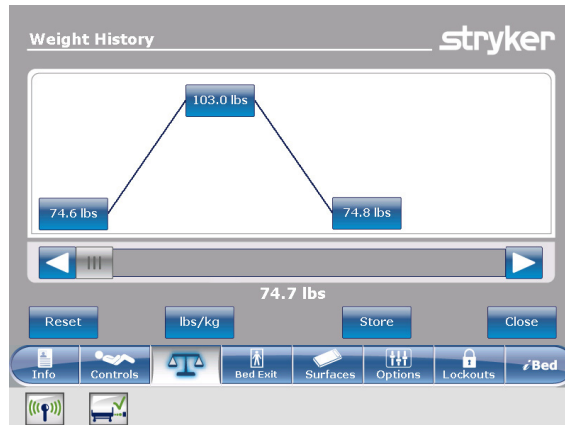
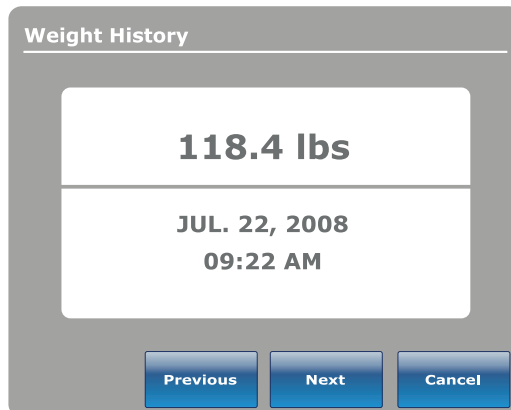

Figure 27: Weight history
Figure 28: Weight history information
To reset the stored weight histories, tap **Reset** (Figure 27 on page 46).
To change the displayed measuring unit, tap **lbs/kg** (Figure 27 on page 46).
To store the current weight reading, tap **Store** (Figure 27 on page 46).
To return to the **Scale** screen, tap **Close** (Figure 27 on page 46).
1. Tap a weight value in the weight history screen (Figure 27 on page 46). Each value displays the time and date of the measurement (Figure 28 on page 46).
2. Tap **Previous** to see the previous weight measured (Figure 28 on page 46).
3. Tap **Next** to see the next weight measured (Figure 28 on page 46).
4. To return to the **Weight History** screen, tap **Cancel** (Figure 28 on page 46).